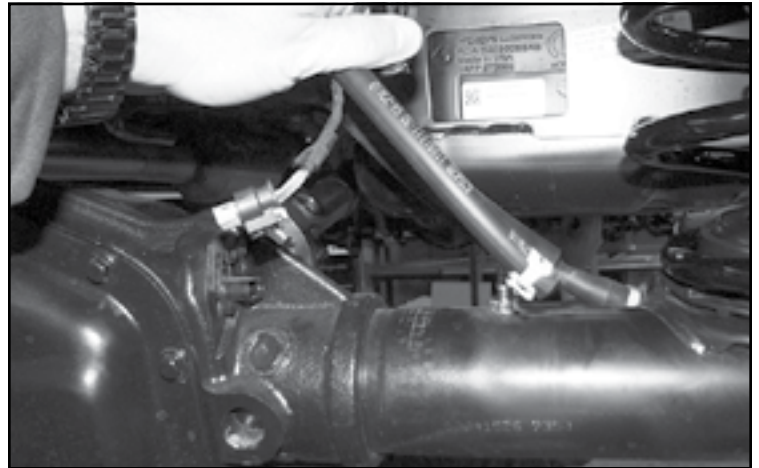

FIGURE 31 - STEP 30
30. Unplug the locker harness from the axle (**RUBICON MODELS ONLY**) **SEE FIGURES 31**